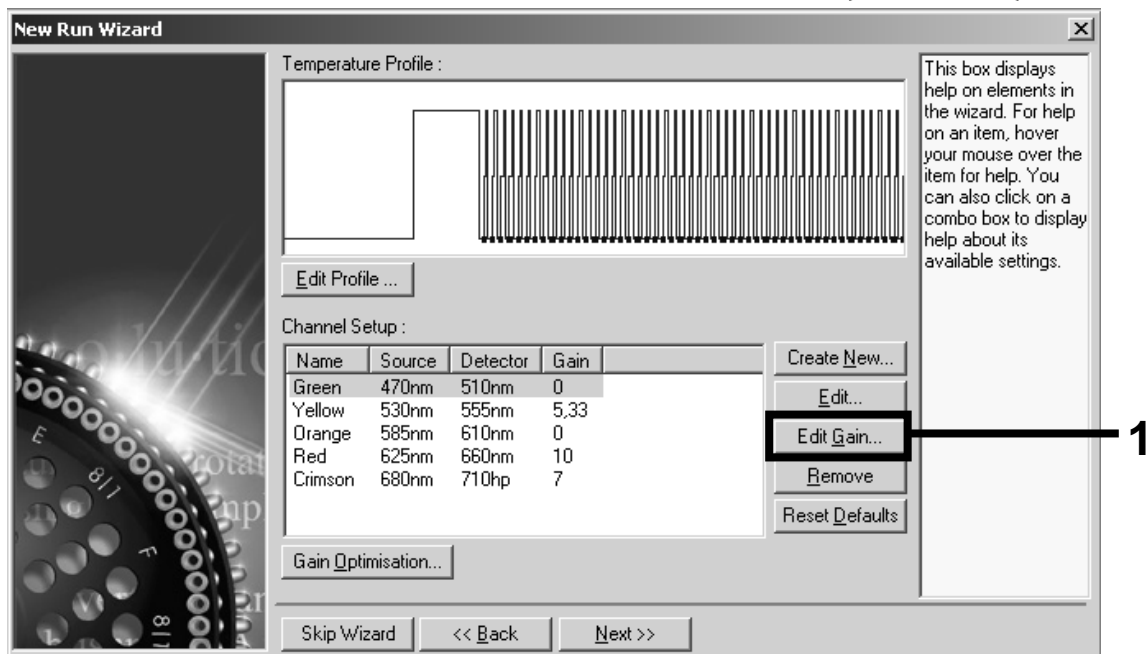

Figure 19. Editing the gain values manually.
14. Click “Edit Gain” to edit the gain values manually (Figure 19).